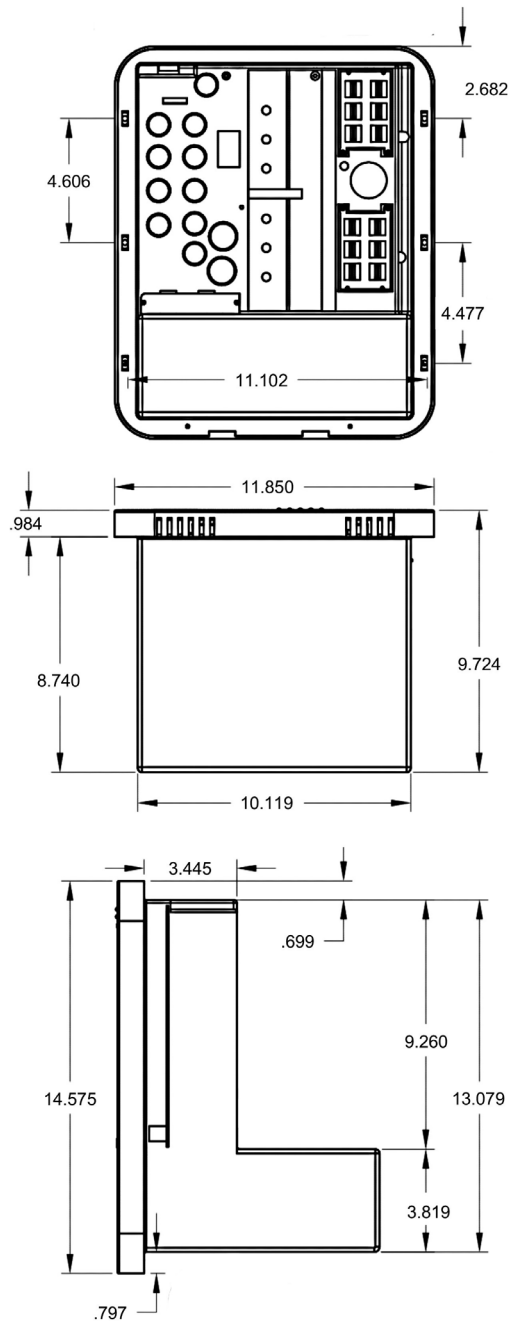

Figure 7
**** Make sure no AC power is coming into the RV from either the Shore Power cord or an on-board generator.** Determine the proper size breakers for the loads the WF-9500LiS Series will be powering. You can use either single or duplex breakers, or a combination of both. We recommend that all the breakers used be of the same brand. When using duplex style circuit breakers, a total of fourteen (14) breakers can be mounted in the WF-9500LiS Series Power Center, two (2) Main breakers and twelve (12) Branch breakers. Refer to the tables on pages 5 and 6 for a selection of approved breakers. The Main breaker should be a 2-pole, 50 Amp type and should be installed in the center position (See Figure 7 on page 13). A hold down clip is provided to keep the breaker securely in place. The 50 Amp power cord is routed through the largest knockout in the wiring compartment and secured with a listed strain relief clamp. A 50 Amp power cord has 4 leads; Black (HOT1), Red (HOT2), Neutral (White), and Ground (Green). The Black (HOT1) wire is connected to one side of the 2-pole 50 Amp Main breaker as shown in Figure 7 on page 13. The Red (HOT2) is connected to the other side. The White (Neutral) wire is connected to the Neutral Terminal bar at the bottom left of the wiring compartment. The Green (Ground) wire is connected to the Ground Terminal bar located at the top left of the compartment.